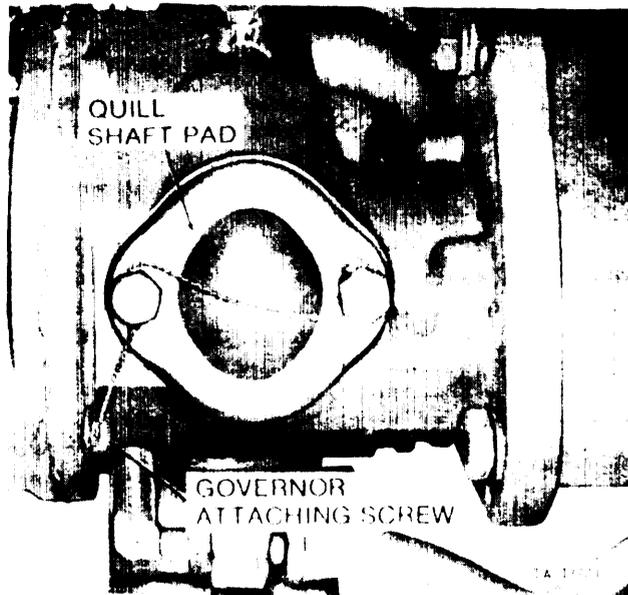

Figure 3-141. Securing quill shaft cover screws and bottom governor attaching screw.
b. Install Governor and Associated Parts. Refer to figure 3-140. Coat both sides of governor housing gasket with a suitable sealer MIL-S-45180. Install governor housing gasket (A). Guide fuel control rod through timing window and install governor (B) on injection pump housing with sliding sleeve engaging weight and spider assembly. Install two machine screws (C) and lockwashers (D). Install three machine screws (F) and lockwashers (G). Torque tighten screws to 50-80 inch-pounds and secure with locking wire (H). Lock wire bottom screw to quill shaft cover attaching screws. See figure 3-141.